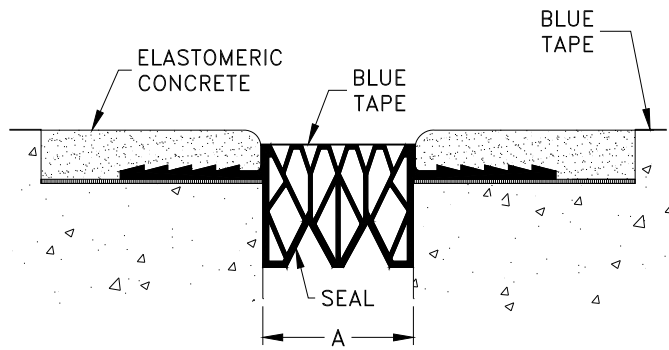

Figure 9
- STEP 11.** Champfer the edges of the Elastomeric Concrete along its interface with the seal. As needed, level off the Elastomeric Concrete and trowel the finish smooth. Trowel the surface flush with the top of the deck (see Figure 9). For best results, use a trowel that is wiped in an approved solvent. This will prevent the Elastomeric Concrete from building up on the trowel and provide a smooth finish.